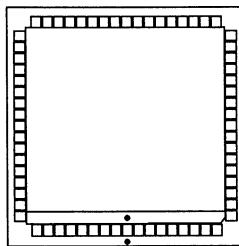

Figure 8 HT2000 Firmware 081004 (shown in socket)
- a. Orient firmware by aligning the dot and bevel on IC (indicating pin 1) to the dot on socket. (Some firmware has only a bevel indicating the side where pin 1 is located.) See Fig. 8. Be careful not to bend any pins during installation.